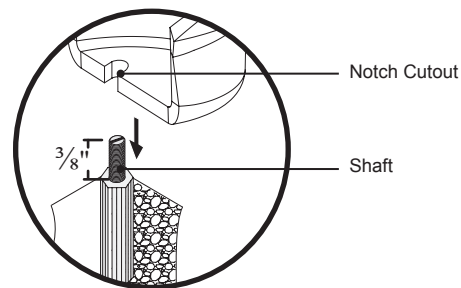

Figure 11. Anchoring the Slipper Bathtub
- 2 Slowly lower the unit down onto the ground, making sure that the shafts and notch cutouts align properly (Figure 11).